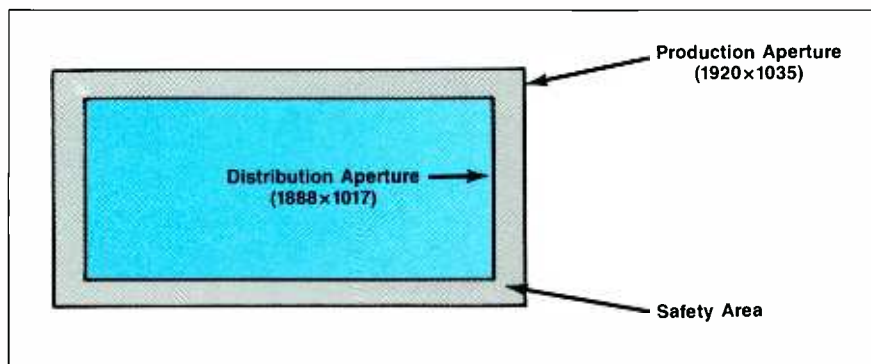

Figure 5. Production and distribution apertures.
- A Distribution Aperture is defined by 1,888 pixels by 1,017 lines (Figure 5). This video area could result from the various degrees of spatial filtering and/or methods for handling the horizontal and vertical edges of the picture under normal post-production processing.